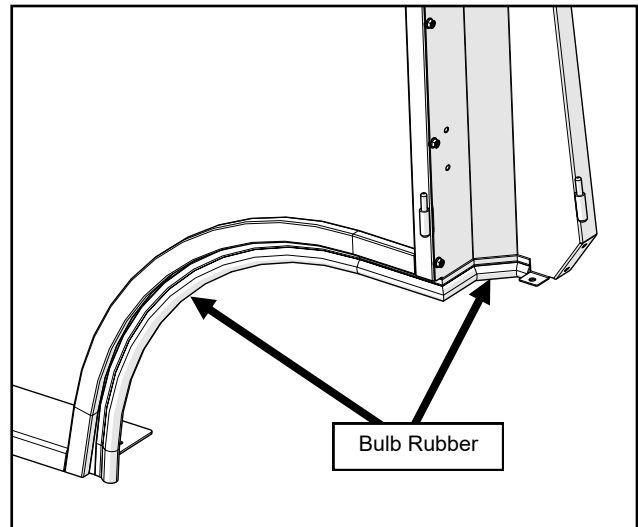

Fig. 3.2 (Attach Bulb Rubber)
- 3.2 Attach bulb rubber to the side frame and rear leg assembly in one continuous strip. See Figure 3.2.